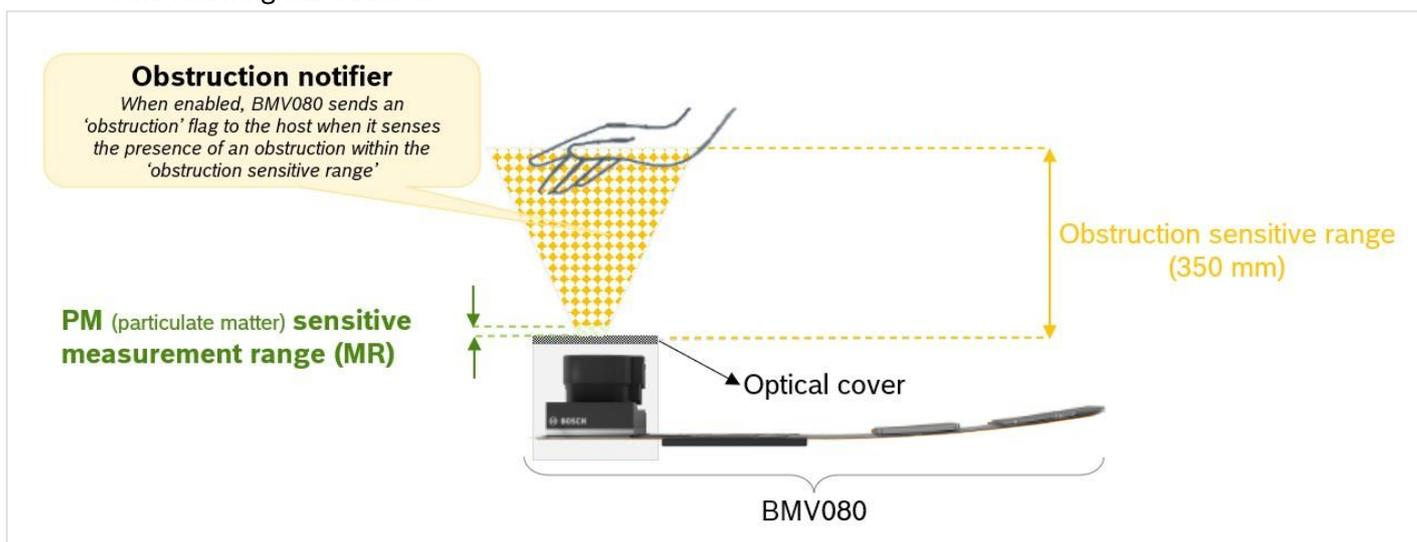

Figure 7: Typical obstruction sensitive range of BMV080
- However, static obstruction (e.g., fixed object in *obstruction sensitive range* (see Figure 7) will influence sensor functionality. When the BMV080 detects a static obstruction, the PM output is not available, and an *obstruction flag* is returned. Therefore, static obstructions caused by the integration into the host should be avoided